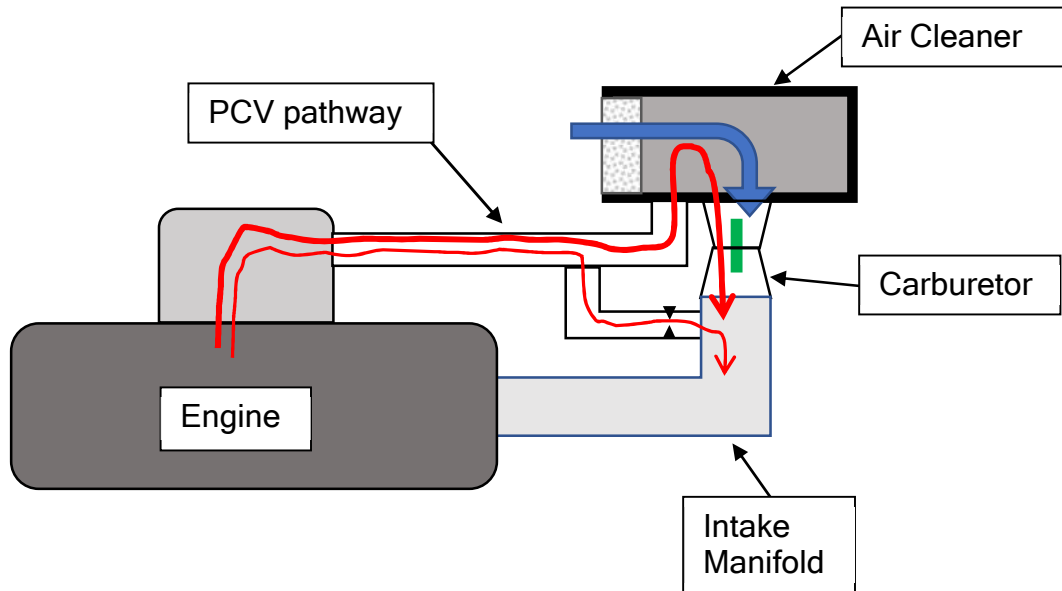

Figure 2. PCV during Wide Open Throttle
- **WIDE OPEN THROTTLE** - Manifold vacuum is LOW and crankcase gasses volume is greater than can be consumed by the intake manifold metering device. The crankcase gasses not ingested into the intake manifold go TO the air cleaner and are pulled into air drawn into the carburetor(s) and consumed in the cylinder by combustion. The throttle is open enough to produce a positive airflow through the air cleaner to ensure the crankcase gases do not escape out to the atmosphere. Refer to figure 2.